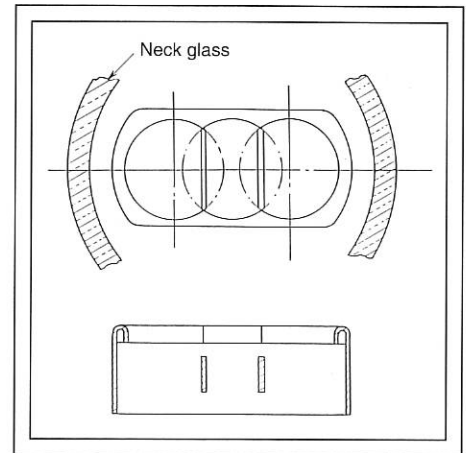

Fig. 4: The focus electrode in the OLF gun. (Figure from Hosokoshi et al., Ref. 9.)
6. In-line gun design with a common lens has reduced the aberration of the main lens and enabled most of today's color TV tubes to reach the limits of system performance (Figs. 4 and 5).^{8,9}
7. The elliptically shaped aperture (EA) auxiliary lens in the common-lens gun has properly compensated for the asymmetrical focusing of the common lens.¹⁰